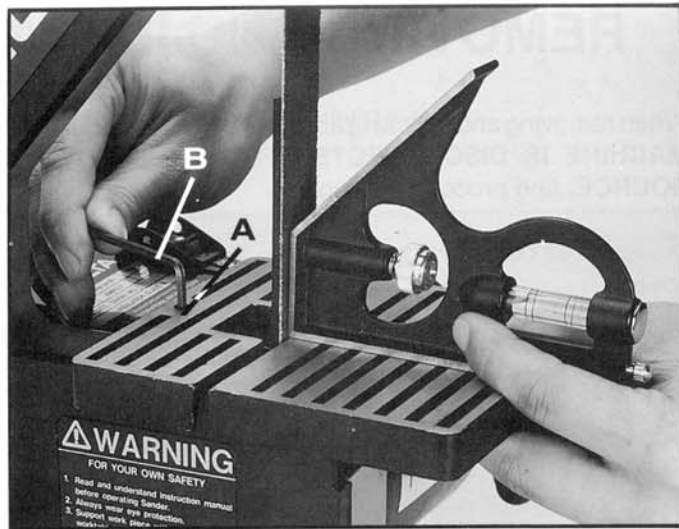

Fig. 13
2. Using a combination square, place one end of the square on the table with the other end against the sanding belt, as shown in Fig. 13, and check to see if the table is 90 degrees to the belt.
3. If the table surface is not 90 degrees to the belt, turn adjusting screw (A) with wrench (B) Fig. 13, until the table is 90 degrees to belt when the table is tilted all the way to the rear.